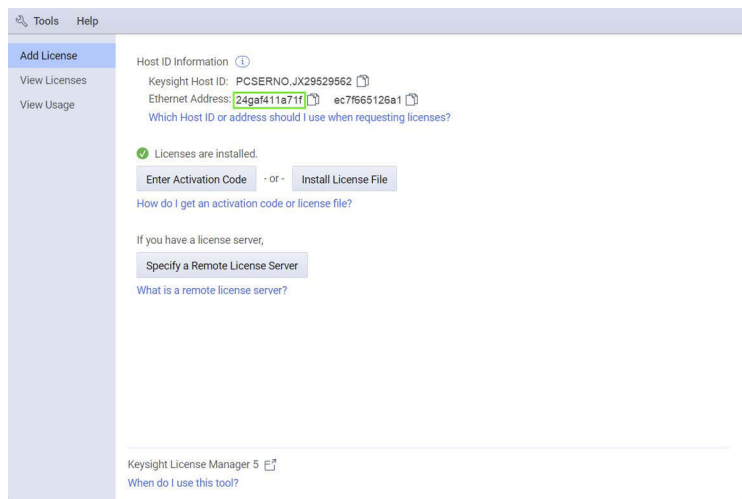

Figure 3 Viewing the Ethernet Address
- 2 Copy the **Ethernet Address**, which is a set of alphanumeric values (as highlighted in Figure 3) that appears in the **Add License** tab of the application.